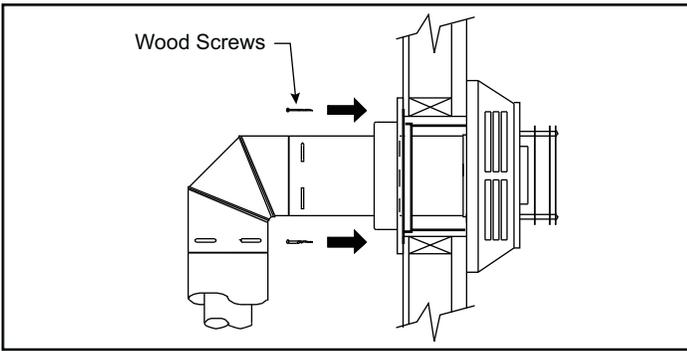

Figure 3.31
**Step 6** - Slide the wall thimble cover up to the wall surface and attach to the wall with screws provided, Figure 3.31. Apply optional decorative brass trim to wall thimble cover if desired.